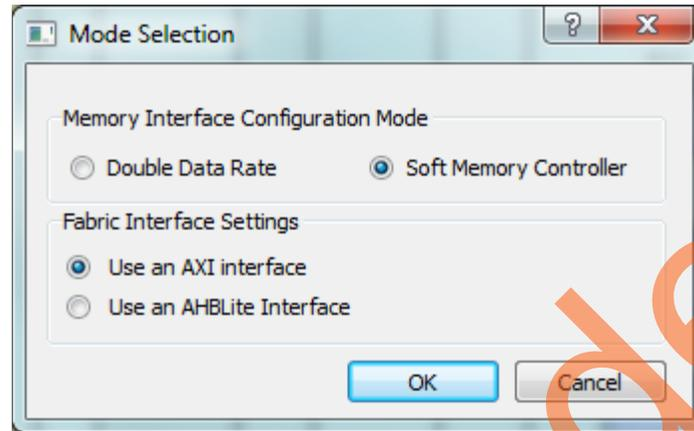

Figure 11. Mode Selection
4. Double-click the **MSS_CCC** block and configure as shown in Figure 11.